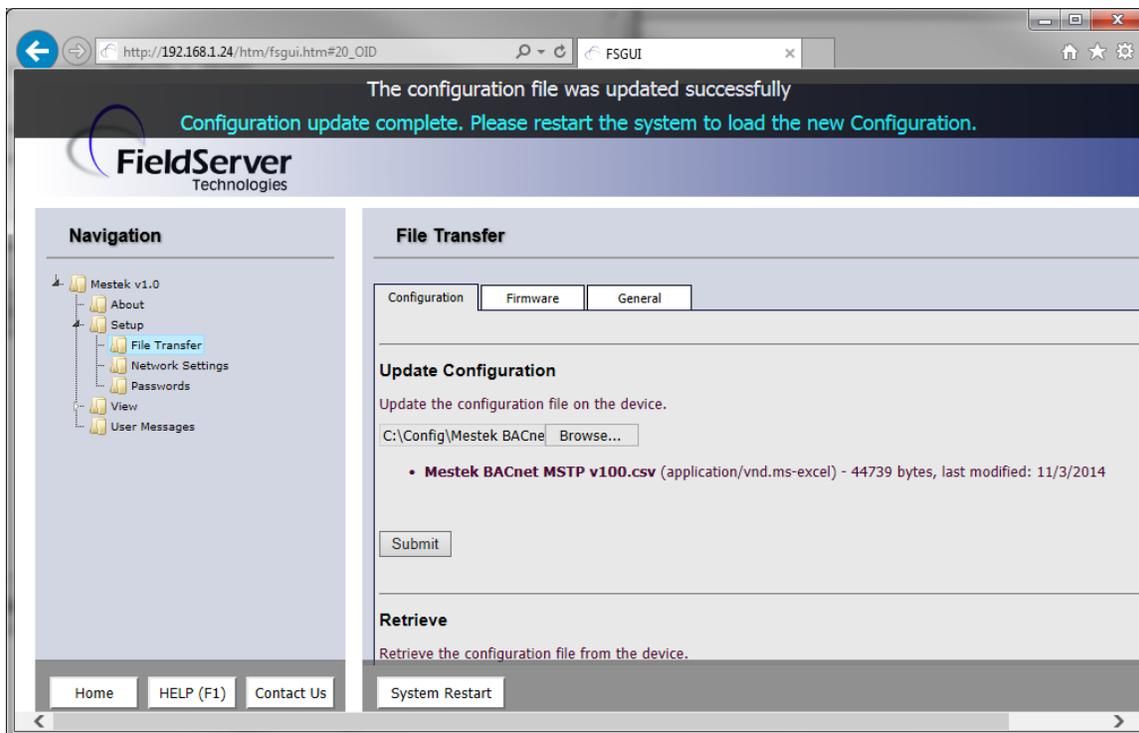

Figure 8 - FieldServer Browser Interface - Restart
12) Clicking the “Submit” button will transfer the configuration file, and prompt to reset the Processor as shown in Figure 8.